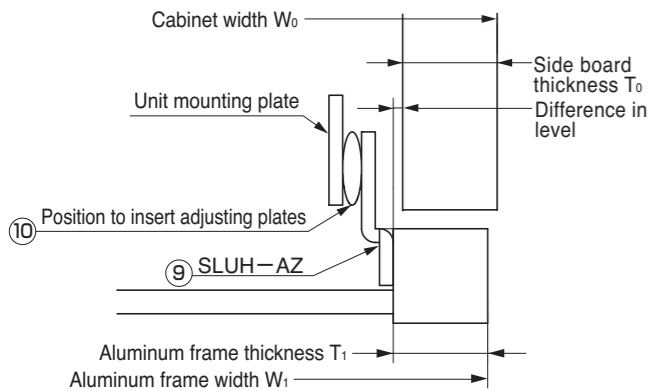

Fig. 9. Indication of position to insert adjusting plates
In case the SLUH-AZ mounting plate ⑨ is used, for horizontal adjustment it is necessary to insert the adjusting plates ⑩ of the required quantity between the unit mounting plate and the mounting plate. (Fig. 9)
Calculate the required quantity of adjusting plates depending on the value of difference in level shown on Fig. 9. (Table 2)
$$\text{Value of difference in level shown on Fig. 9} = \frac{(W_0 - T_0 \times 2) - (W_1 - T_1 \times 2)}{2}$$
| Value of difference in level shown on Fig. 9 | 0 | 1 | 2 | 3 | 4 |